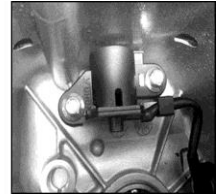

Fig. 11
- d. Insert the two M6 × 16 bolts through the bolt holes in the oil level switch assembly and crankcase. Tighten the bolts with a torque wrench set to 8~12 N-m (Fig. 11).